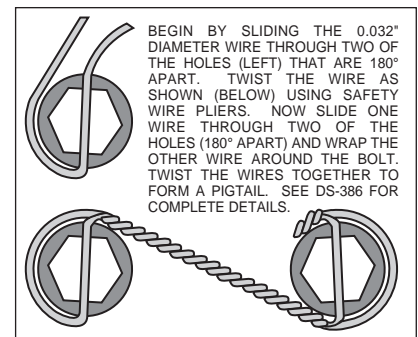
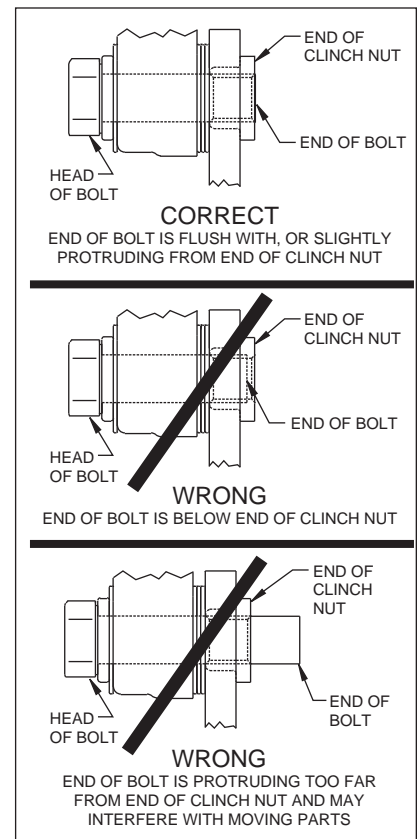

Figure 4. Safety Wire Diagram
Figure 5. Clinch Nut Engagement Diagram
Assembly Instructions (numbers in parenthesis refer to the part list/diagram on the preceding page): **CAUTION:** All mounting bolts must fully engage insert nuts. Be sure to check that all bolts are either flush or protruding through flanged side of insert nut after shimming Figure 5.
- The rotor (3) has two sides. A flat side and an inset side. Bolt hat (2) to flat side of rotor (3) using bolts (5). Using an alternating sequence, apply red *Loctite*® 271 to the threads and torque bolts to 25 ft-lb. Safety wire bolts using standard 0.032 inch diameter stainless steel safety wire as shown in Figure 4. Refer to Wilwood's data sheet DS-386 (available at www.wilwood.com/Pdf/DataSheets/ds386.pdf) for complete safety wire installation instructions.
- Align the correct hole pattern in the hat (2) with the stud pattern on the axle flange. **NOTE:** Some OEM and after market axles come with stud sizes larger than 0.50" diameter. Verify stud size and have a qualified machine shop drill the hats to the correct size. Slide the hat/rotor assembly (2 and 3) over the wheel studs and against the axle flange face.
- NOTE:** Please reference the caution statement at the beginning of the assembly instructions. Mount the caliper (6) over the rotor (3) and onto the caliper mounting bracket (1) using washers (7) and mounting bolts (8). View the rotor through the top opening of the caliper. The rotor should be aligned in the center of the caliper. If not, adjust the caliper by using 0.032 inch shims (9) by placing them between the caliper mounting bracket (1) and the caliper (6). Add as many shim washers (9) as necessary to achieve the correct alignment. **NOTE:** The end of the bolt must be flush with or slightly protruding from the head of the clinch nut. See Figure 5. Place spare shims (9) between washer and caliper mounting ear to achieve the proper mounting fastener configuration. Always use the same amount of shims on both the top and bottom caliper mounting bolts (8). Apply red *Loctite*® 271 to the mounting bolt threads (8), torque to 40 ft-lb. Caliper bolts may be safety wired for additional security.
- Position the Wilwood disc brake pads (10) into the caliper (6) and fasten with cotter pin (4). Steel backing plate side of brake pad should face the caliper pistons.